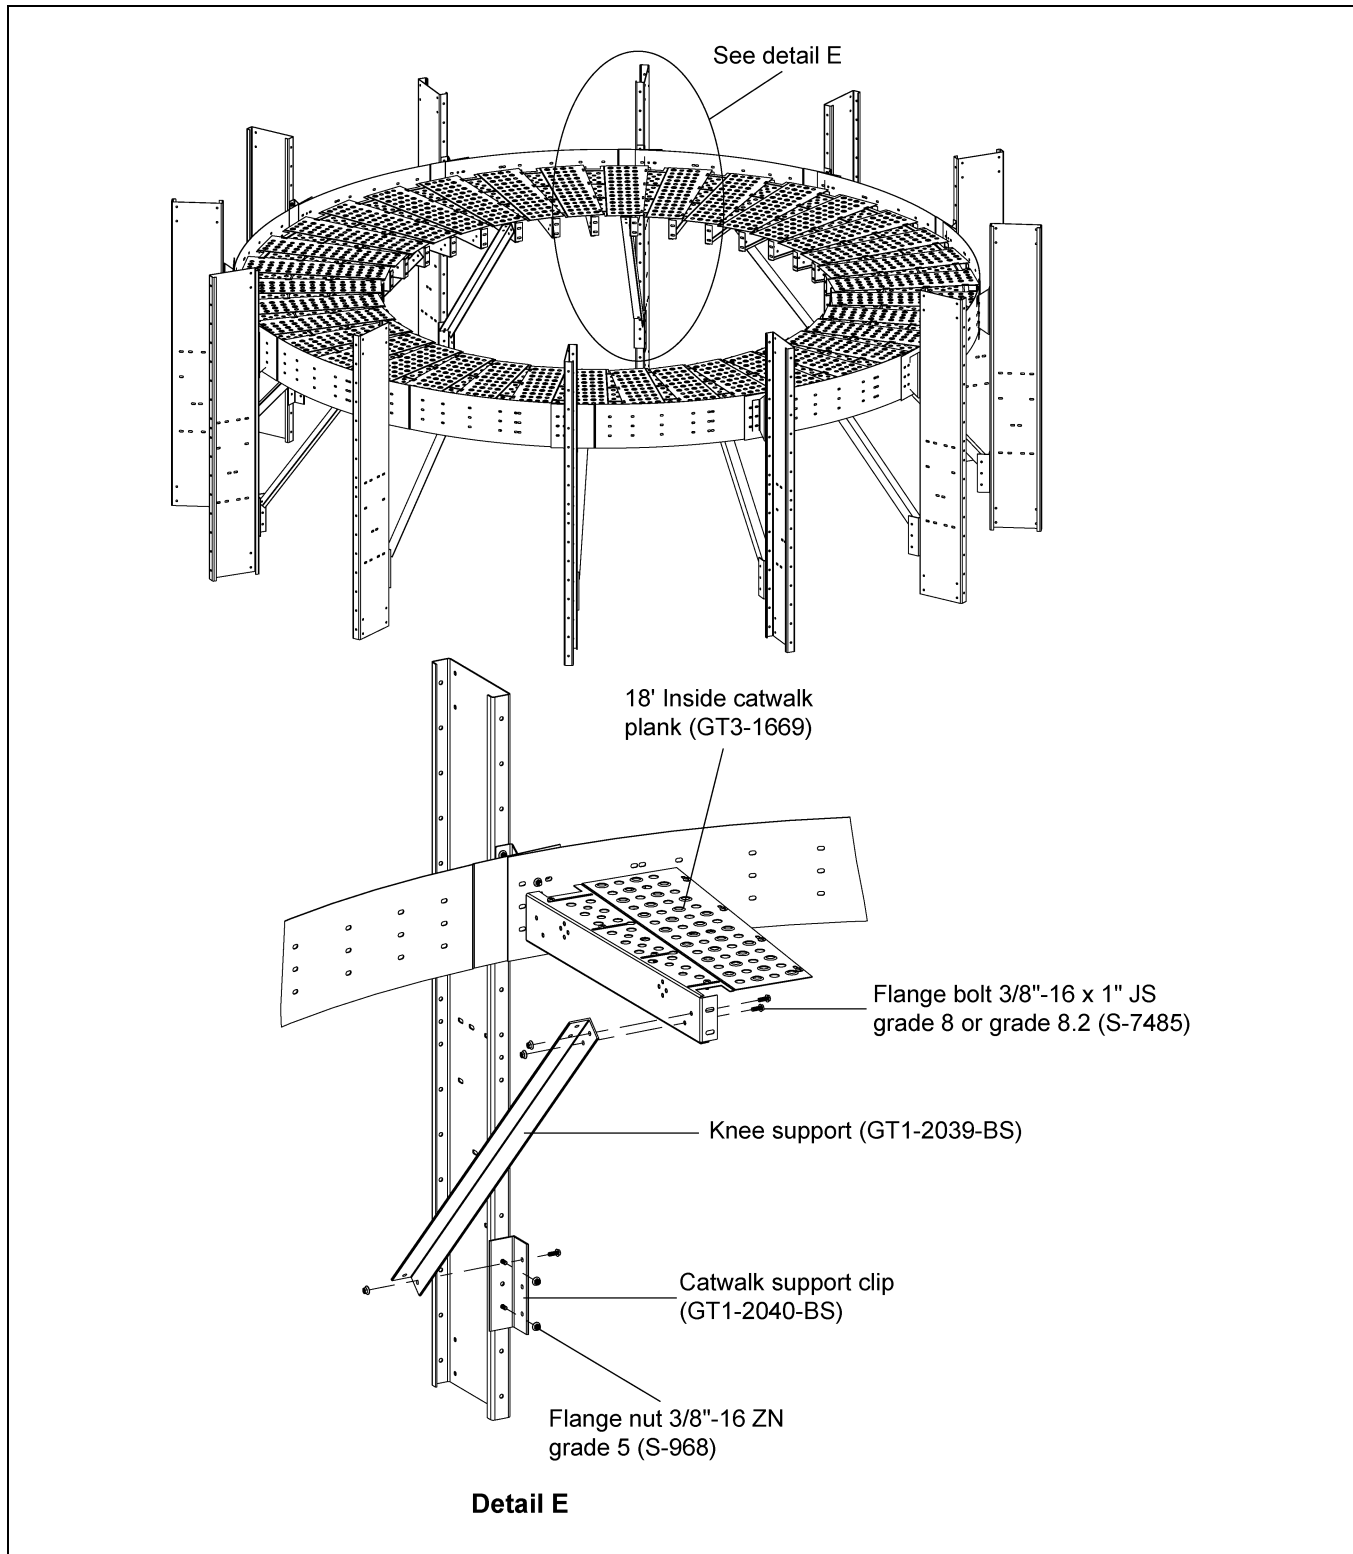

Figure 5I
1. Install the knee support (GT1-2039-BS) around the dryer between the catwalk support clips (GT1-2040-BS) and planks (GT3-1669) using 3/8"-16 x 1" JS grade 8 or grade 8.2 bolts (S-7485) and 3/8"-16 ZN grade 5 nuts (S-968). *(See Figure 5I.)*